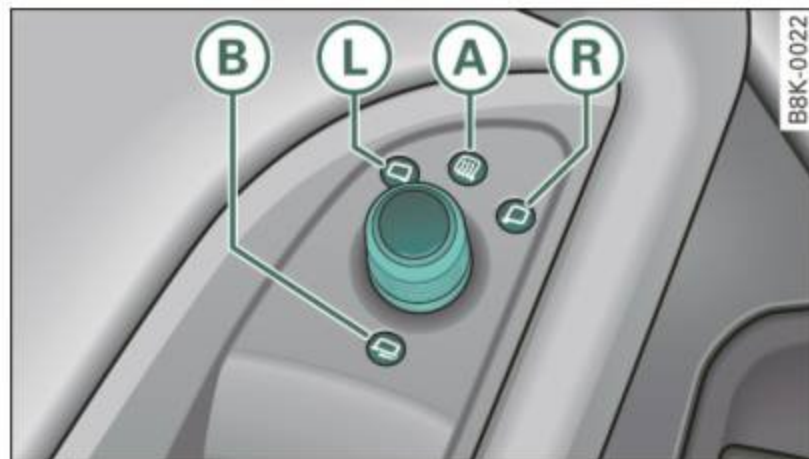

Fig. 72 Forward section of driver's armrest: power mirror controls
- Rotate the knob to the **L** position (driver's exterior mirror) or to the **R** position (passenger's exterior mirror) ⇒ fig. 72.
When the reverse gear is engaged, the mirror surface tilts downward slightly if the setting is for the passenger's mirror (knob in position **R** ⇒ fig. 72). This allows you to see the curb during parallel parking.